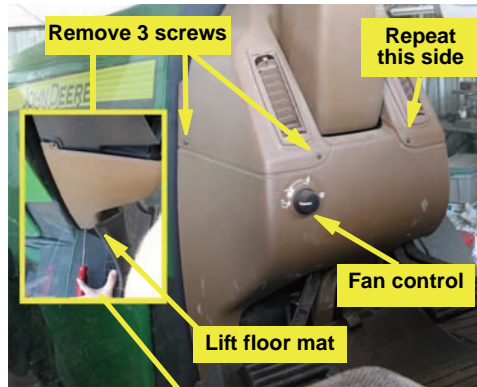

Figure 1a (with inset): Removing steering column cover screws
a. Pull the fan control knob off its spindle then locate and remove the six screws securing the top and bottom steering column covers. Remove the covers (Figure 1a and inset).